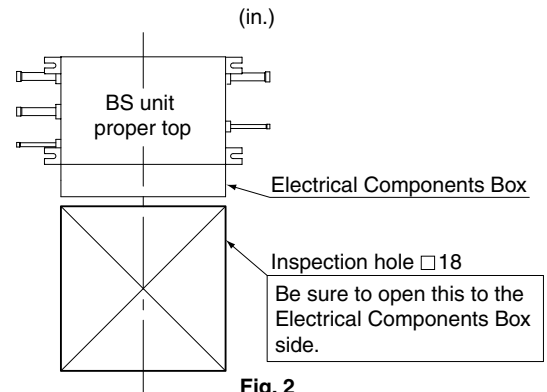

Fig. 2
- Locations where an inspection hole (**Refer to Fig. 2**) can be installed to Electrical Components Box side (See Note).